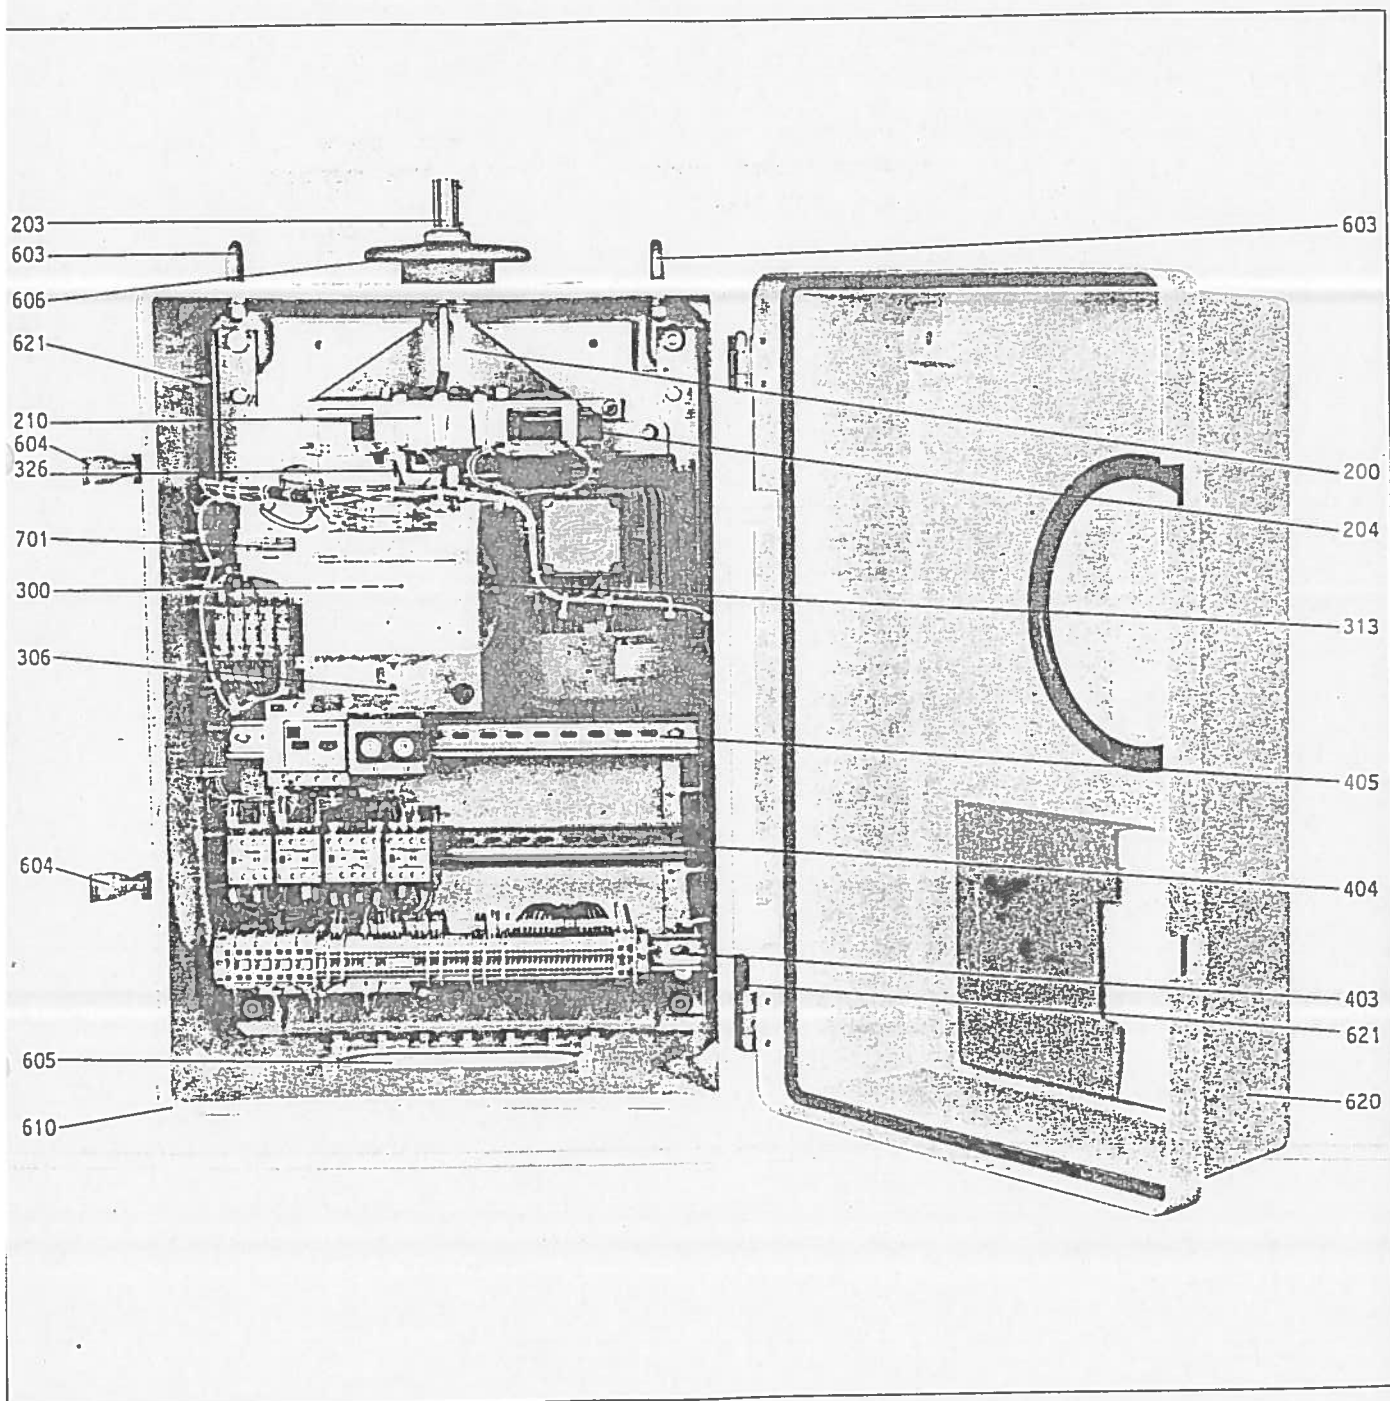
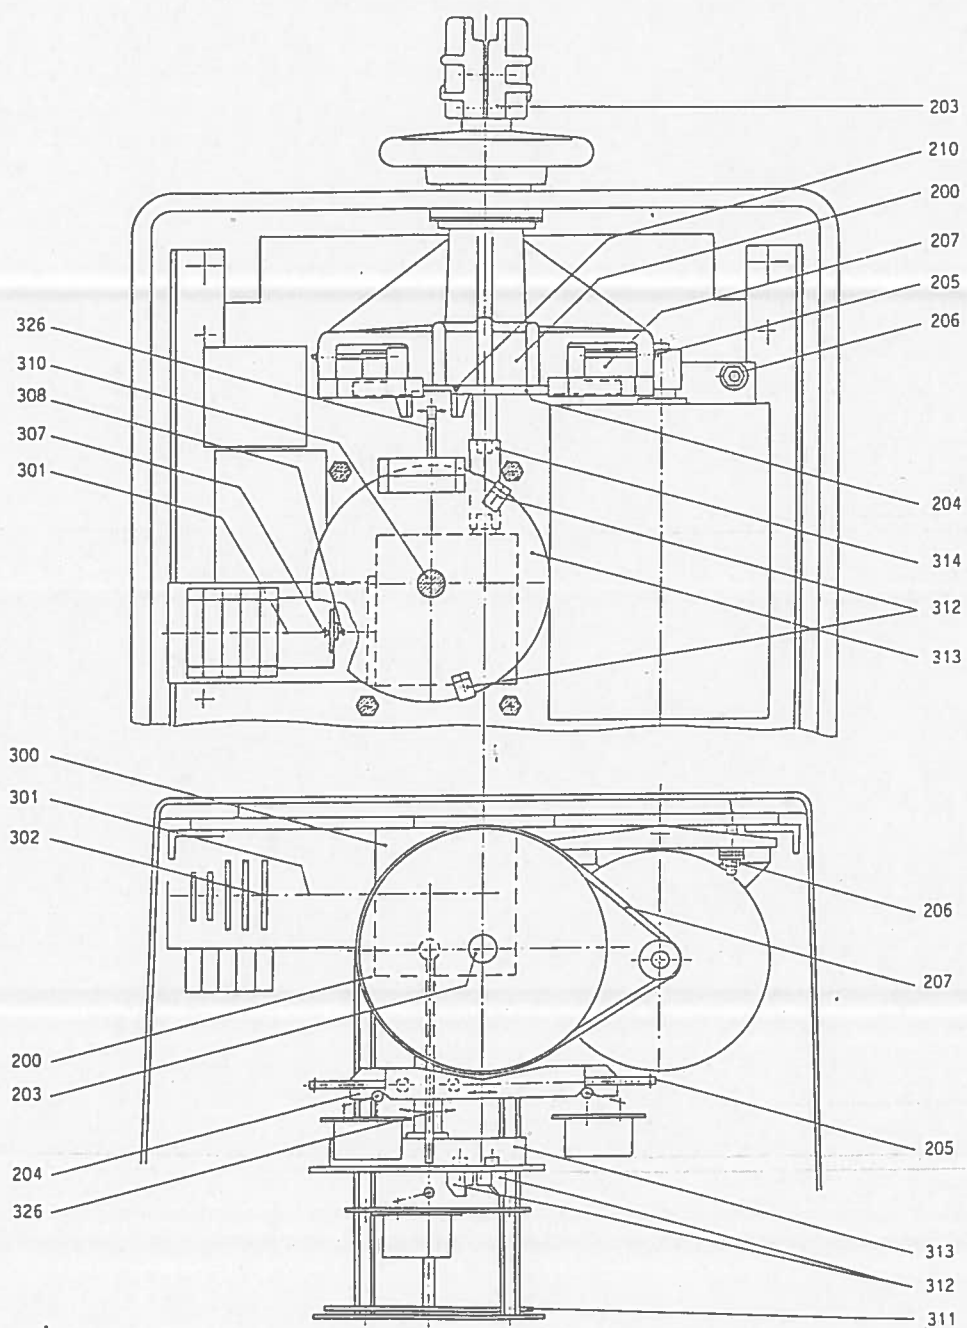

Figure 2 Mechanical equipment
Figure 5 Load gear and control gear
Numbers from 1 to 99 in () refer to current path numbers in the circuit diagram (see, for instance, **Figure 14**, page 21). Numbers from 200 on refer to the mechanical parts of the motor drive, see **Figure 2**, page 5 and **Figure 5**, page 7.
3.1.2 Gear unit (Figure 5)
(Figure 3 and Figure 5)